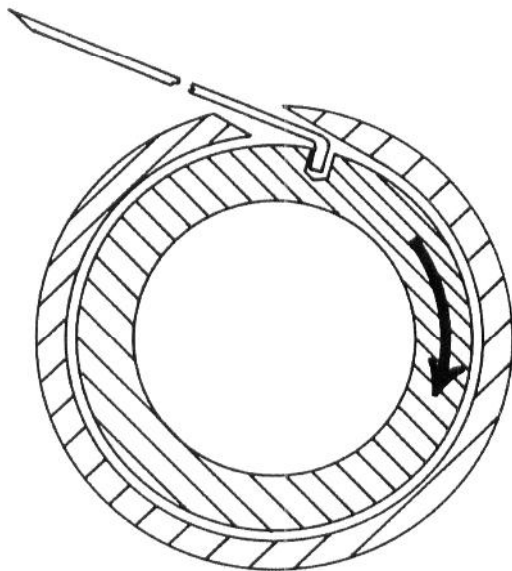

Fig. 73 — Installing Wire Retaining Ring to Secure Bearing
e. Insert "hooked-end" of new wire retainer into hole in bearing groove ... then rotate bearing until beveled end of wire retainer is drawn into bearing groove. Continue to rotate bearing approximately one-half turn, see Fig. 73.